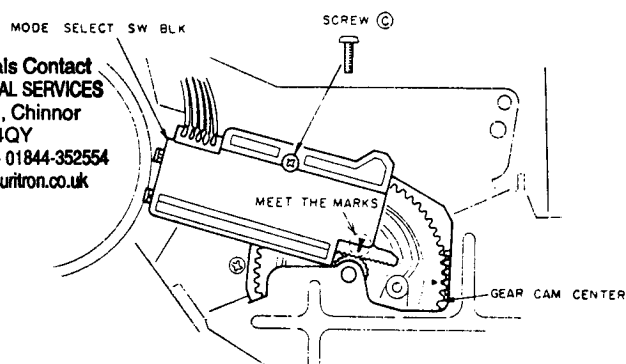

Fig. 4-19
- 10) Meet the marks of MODE SELECT SW and attach the MODE SELECT SW BLK onto the LOADING MECHA BLK as shown in Fig. 4-19. Tighten the MODE SELECT SW BLK with a screw ③.